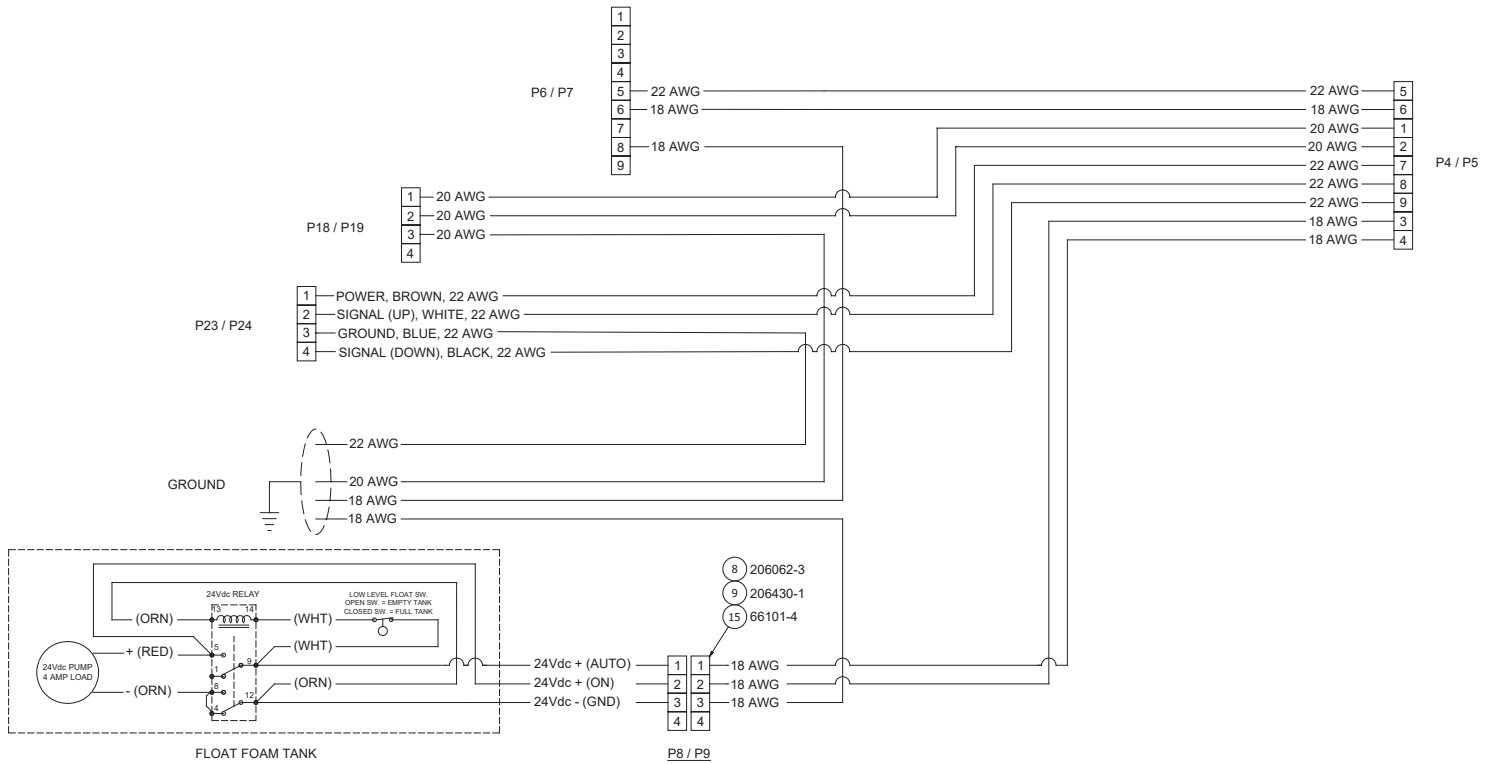

Figure 5
2. Install the noted pins, connector, & cable clamp to P8/P9 per the wiring diagram in Figure 5.